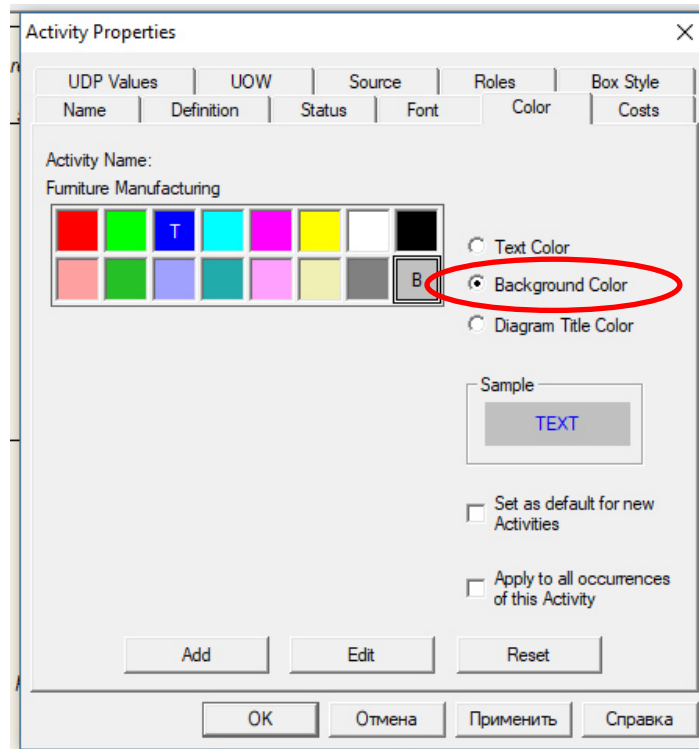

Fig. 1.22. The **Color Tab of the Activity Properties** dialog box
3. Select the necessary color in the **Background Color** option to change the block background (fig. 1.22):